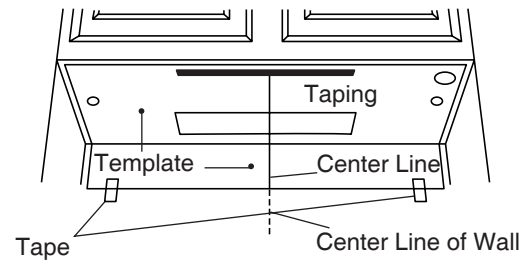

Fig. 2-3
3. Fold the template along a "Rear wall" dotted line. Align the center line with center line on the wall and the top cabinet. Tape the template to the underneath of top cabinet and the wall. (Fig. 2-3)